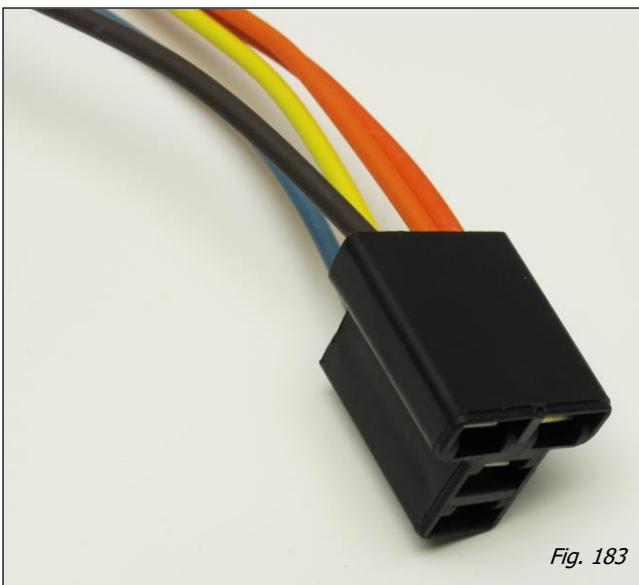

Fig. 183
- Connect the four-pin connector, found on the sub-harness, to the blower switch (see Fig. 183).